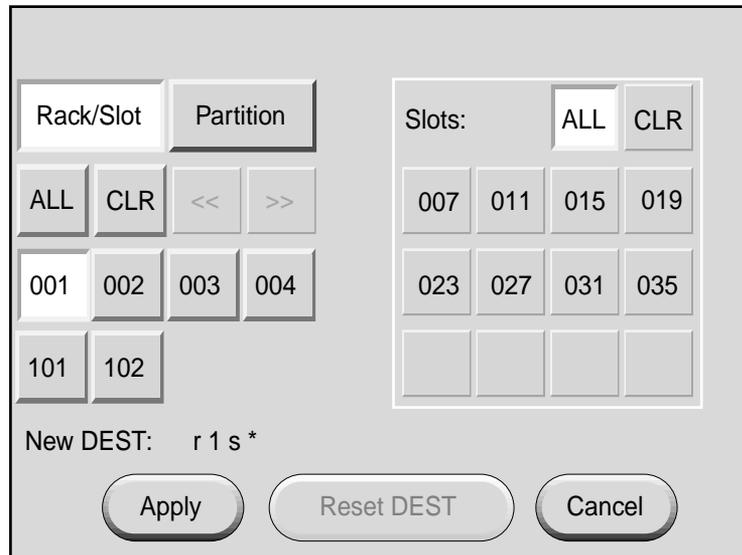

Figure 8-15 Target Selection Window
To select all bricks within a rack, see Figure 8-15 and follow these steps:
2. Press the button for the rack (for example, Figure 8-15 shows rack 001 selected).
The new destination is reflected in the destination field near the bottom of the display window. For example, Figure 8-15 shows all slots in rack 001 (r1 s *) as the destination.